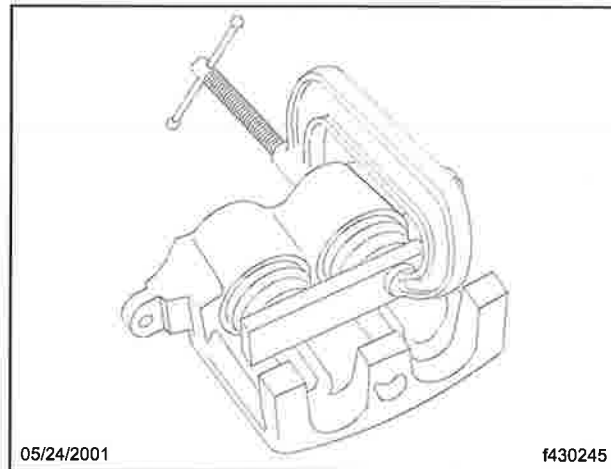

Fig. 7, Retracting Pistons Into the Caliper
16. Position a metal plate across both caliper pistons. Use a C-clamp to push both pistons into the caliper to provide clearance for the new disc brake pads. See Fig. 7.